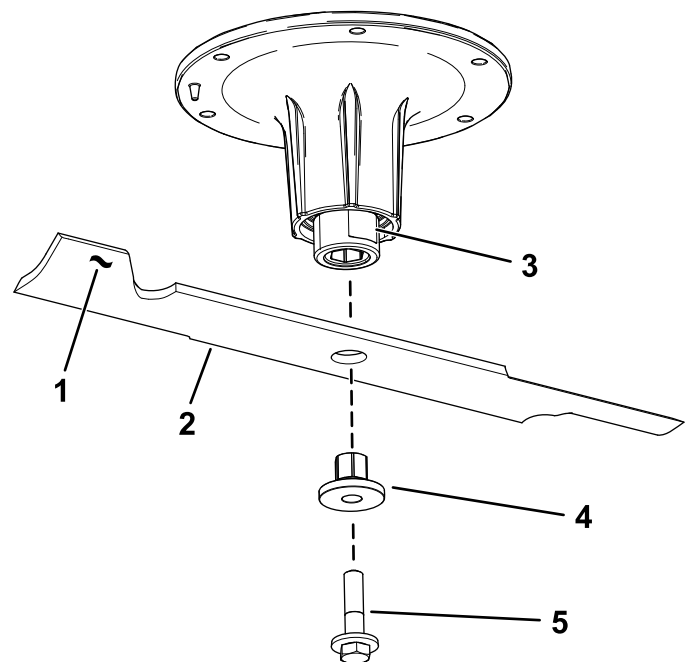

Figure 72
2. Remove the blade bolt, bushing, and blade from the spindle shaft (Figure 72).